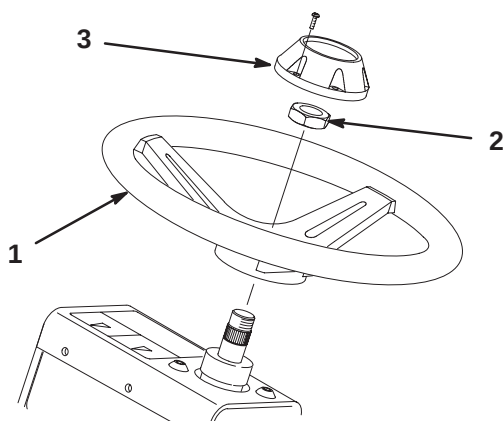

Figure 5
2. Secure the steering wheel to the shaft with the jam nut (Fig. 5) and tighten it to 20–26 ft.-lb.
3. Install the cap to the steering wheel with the screw (Fig. 5).